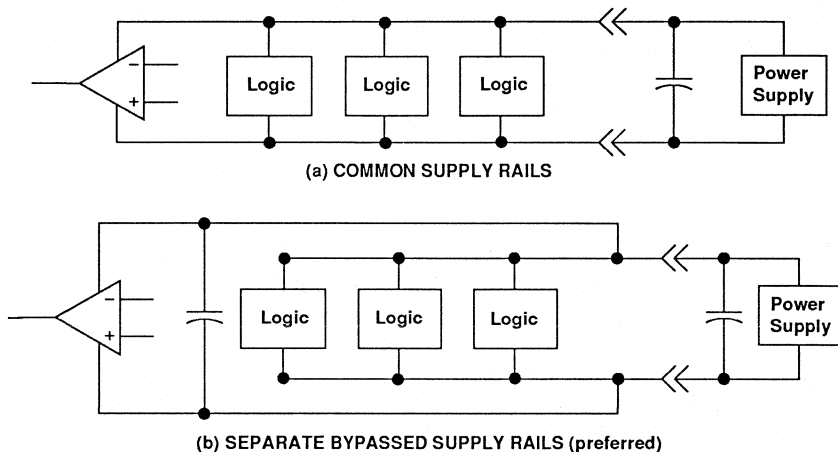

Figure 98. Common Versus Separate Supply Rails
1. Power the linear devices from separate bypassed supply lines (see Figure 98); otherwise, the linear device supply rails can fluctuate due to voltage drops caused by high switching currents in the digital logic.